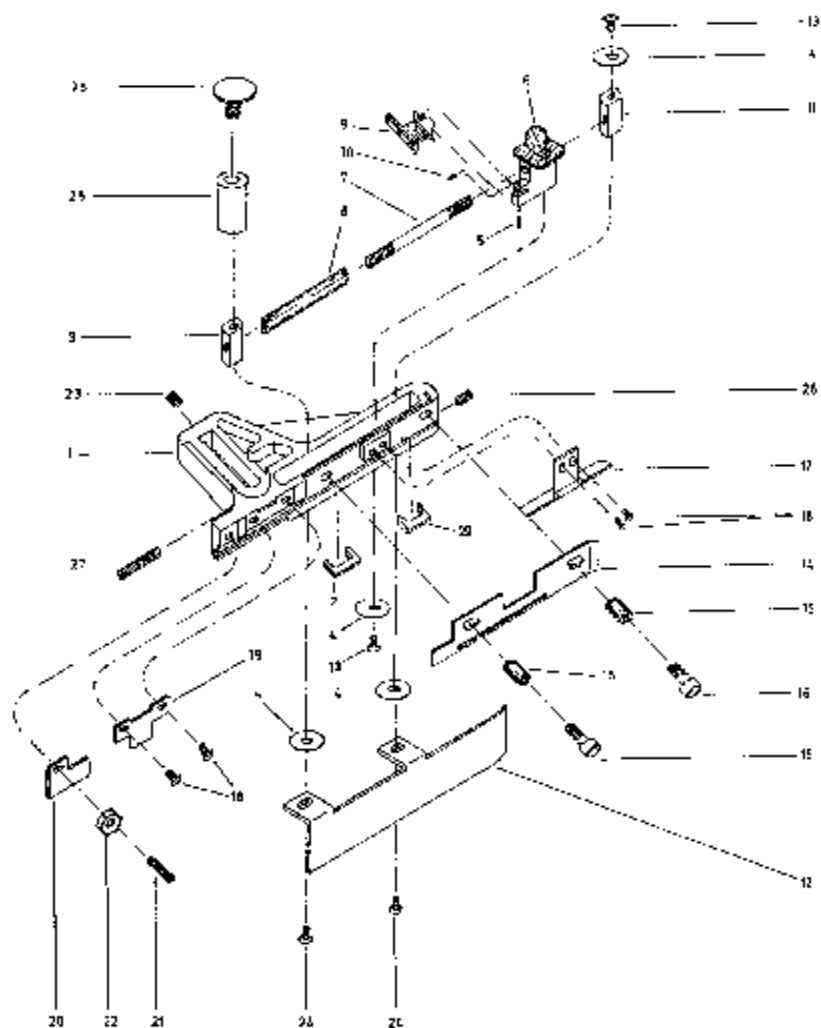

Figure 2
Loosen screws (item 18, fig 2) and place cutter plate (item 19, fig 2) against the anvil. Tighten screws (item 18, fig 2) after adjustment.
Loosen screws (item 18, fig 2) and adjust terminal positioner (item 17, fig 2) so that the feed finger locates the terminals through the pilot holes. Tighten screws (item 18, fig 2) after adjustment.
Parts for figure 2